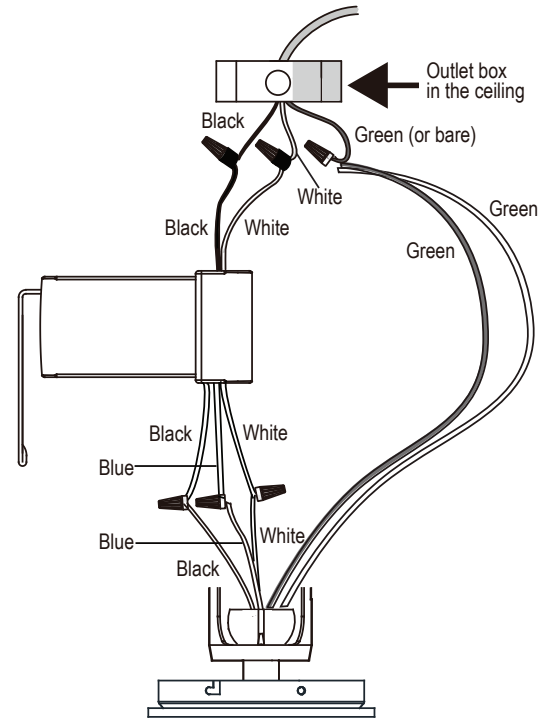

Fig. 12
**Step 2. Motor to Receiver Electrical Connections: (Fig. 12)** Connect the black wire from the fan to the black wire marked “TO MOTOR L” on the receiver. Connect the white wire from the fan to the white wire marked “TO MOTOR N” on the receiver. Connect the blue wire from the fan to the blue wire marked “FOR LIGHT” on the receiver. Secure all the wire connections with the plastic wire nuts provided.
**Step 3. (Fig. 12) Receiver to House Supply Wires Electrical Connections:** Connect the black (hot) wire from the ceiling to the black wire marked “AC in L” from the receiver. Connect the white (neutral) wire from the ceiling to the white wire marked “AC in N” from the receiver. Secure the wire connections with the plastic wire nuts provided.
**Step 4. (Fig. 12)** Connect the fan motor green ground wires to your outlet box ground wire (green or bare copper). Secure the wire connection with a plastic nut (provided). After connecting the wires, spread them apart so that the green and white wires are on one side of the outlet box and black and blue wires are on the other side. Carefully tuck the wire connections up into the outlet box.